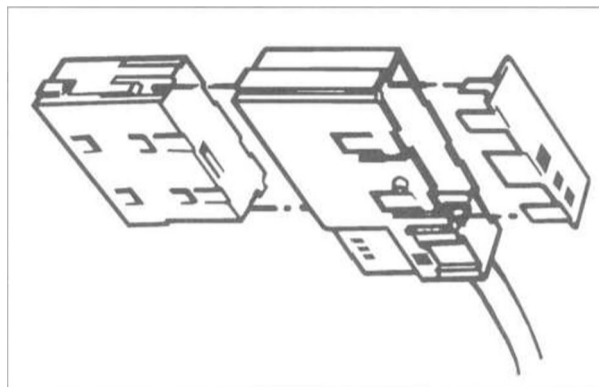

Fig. 7. Coding plug on earlier model (cars built up to Feb. 1989) instrument cluster.
3. Remove rear portion of brown connector (X17). See Fig. 7.